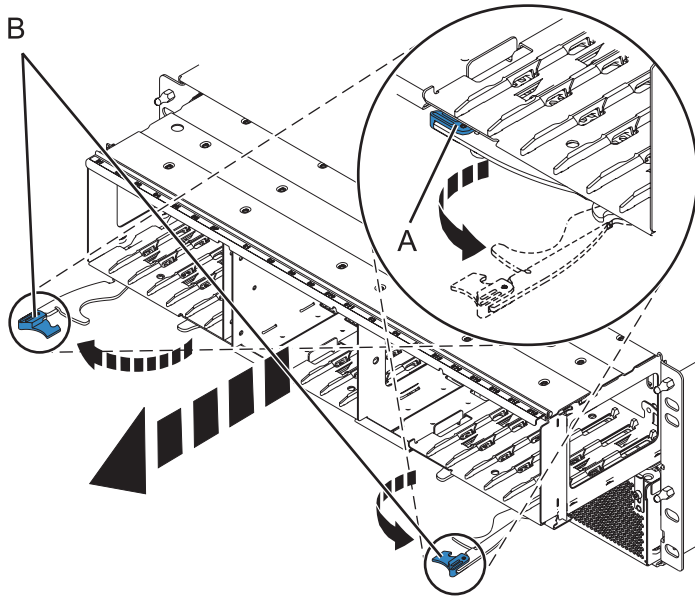

Figure 94. Removing the backplane from the enclosure
6. Remove the backplane as shown in Figure 94 on page 123.